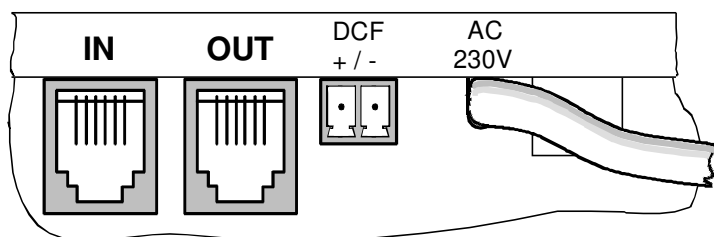

Fig. 6
- The DCF 77 - Radio time signal receiver (DCF / MSF 450 (4500) must be connected with plug DCF on the movement (see fig 6).